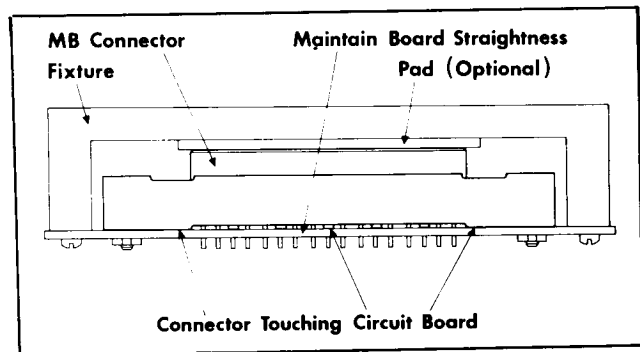

Figure 4. Typical fixture for soldering MB connectors
- Printed wiring boards that are to be wave soldered to the MB connectors should be fixtured to maintain assembly straightness prior to and during the wave soldering process. (Ref. figure 4)